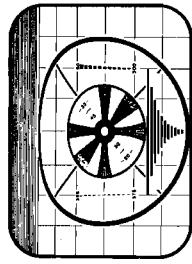

FIG. 16—VERTICAL DISTORTION
17. **VERTICAL LINEARITY** — Improper vertical linearity causes the circular test pattern to appear condensed on the upper edge of the screen and extended on the lower edge or vice versa. This effect is illustrated in Figure 16. Adjust for proper linearity by using "Vertical Linearity" control located on